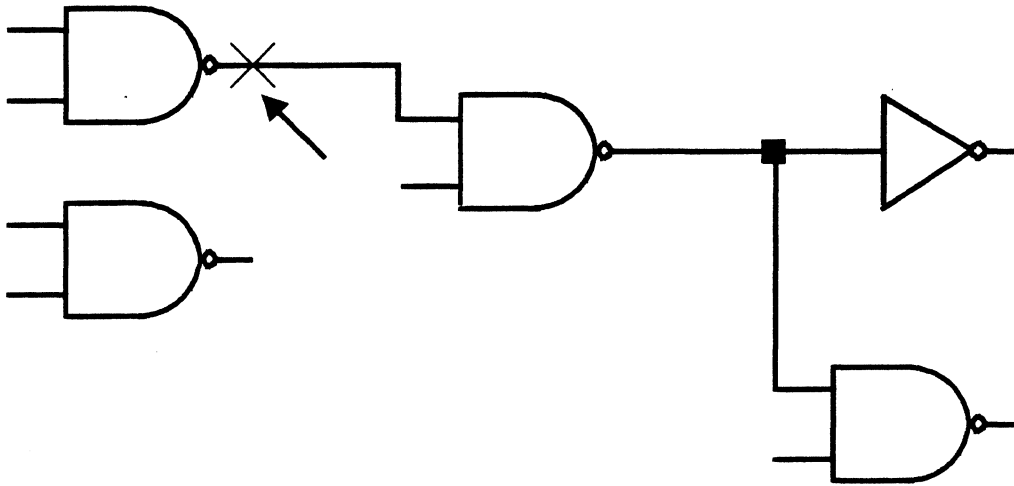

Figure 2.21
- 3) The system places an "X" on the net. Moving the cursor moves the "X" along the net. Move the "X" to the position on the net at which you want to begin the edit (figure 2.21).